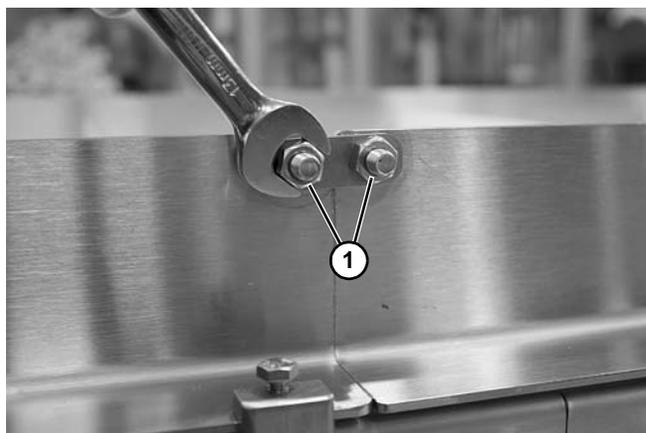

Figure 21
5. Install nuts (**Figure 21, item 1**) and tighten.